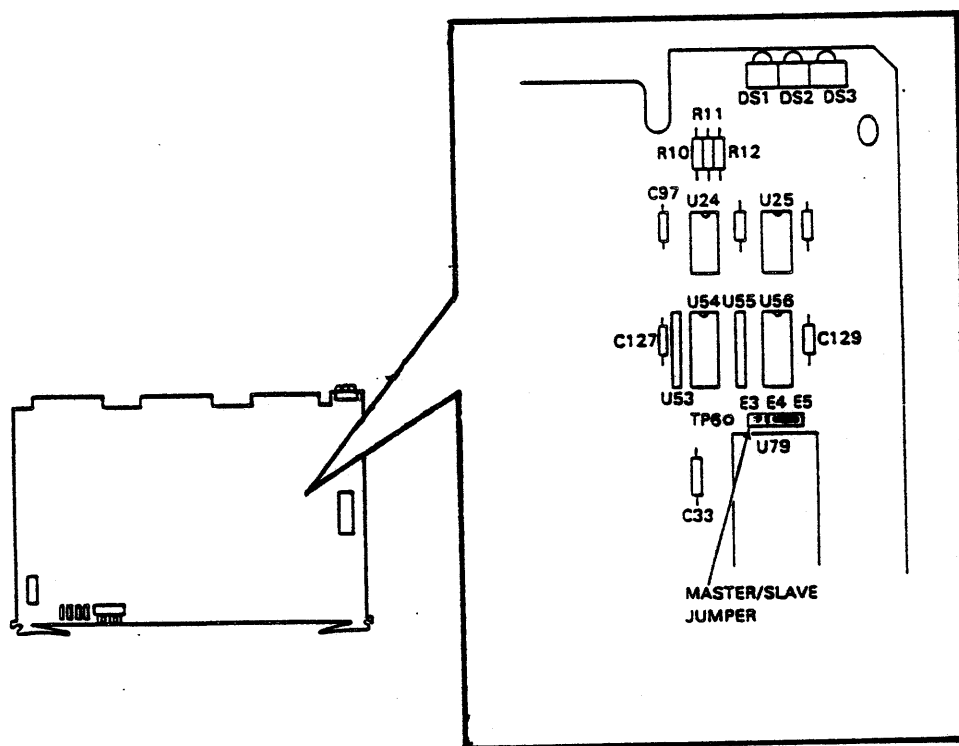

Figure 4-23 Processor Module Master/Slave Jumper
- Jumper between E4 and E5 is always in place (Refer to Figure 4-23).